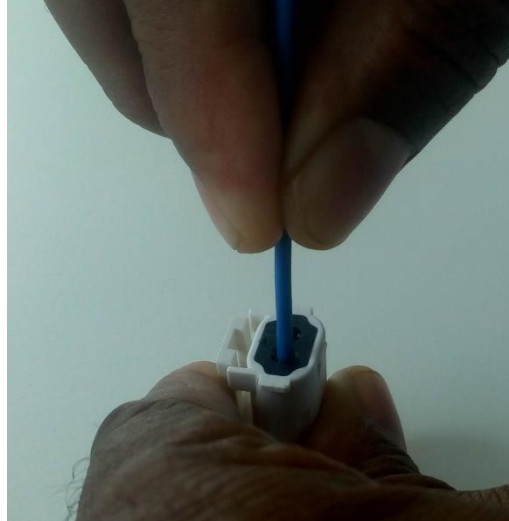
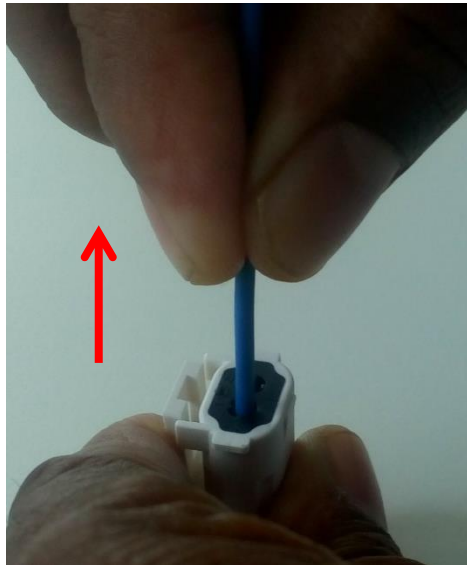

Fig 9
Fig 10
4. Push the terminal into the hole till the terminal reaches the dead end position in the housing as shown in figure 9. Pull the terminal back gently to ensure that terminal is seated properly in the housing as shown in figure 10.